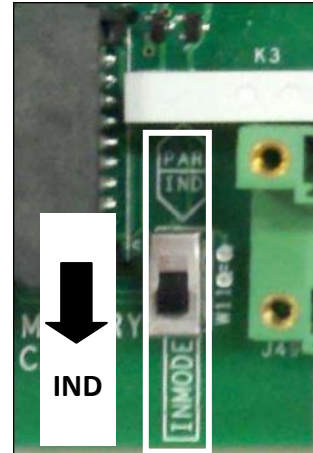

Figure 3:13- Independent Configuration Switch
- Ensure the parallel jumper wiring (see Figure 3:14b), **is not present**.